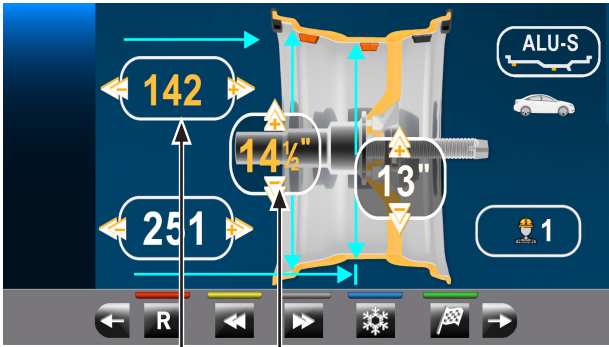

Fig. 117
- go to screen page (Fig. 115 or Fig. 117) (screen page displaying the measurements acquired by the equipment/modified by the operator),
In this way the equipment will use the weight fitting measurements in Fig. 115 or Fig. 117 for all the wheels to be balanced.